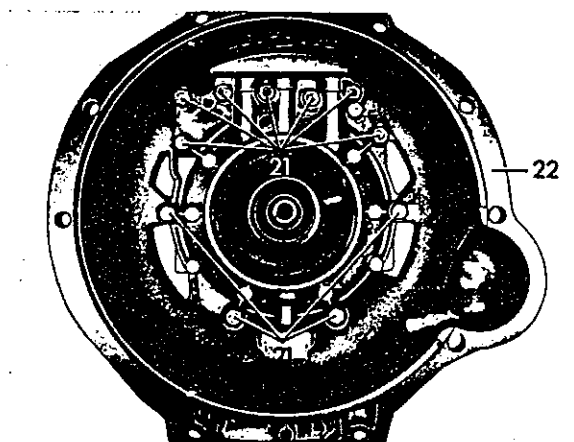

Fig. 10
so that the front transmission case is on top. Remove attachment bolts (21) for the front transmission case (22) **Fig. 10**